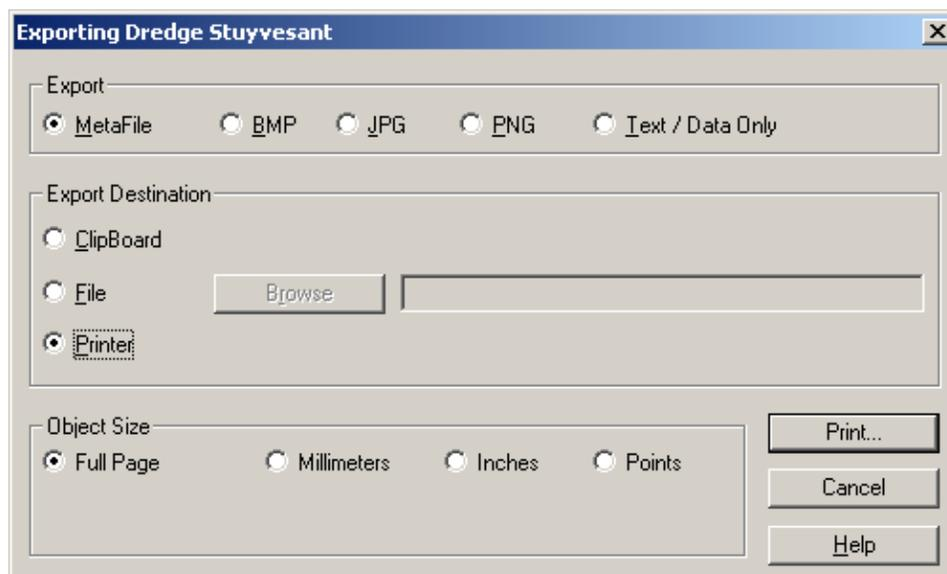
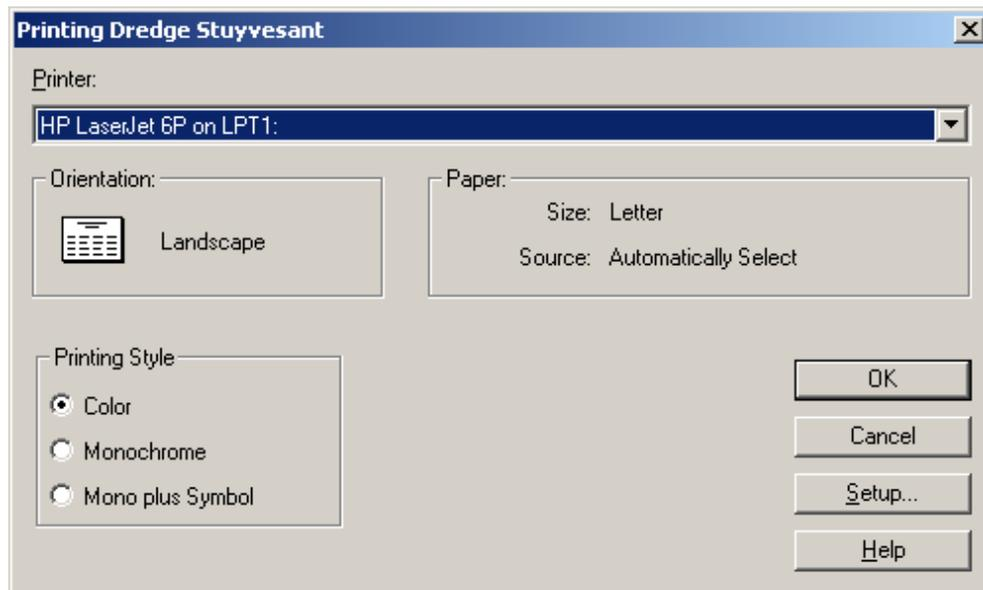

Figure 2.17 Exporting to printer.
Figure 2.18 Printer menu
1. Click Print as shown in Figure 2.17. The print window will then appear as in Figure 2.18.